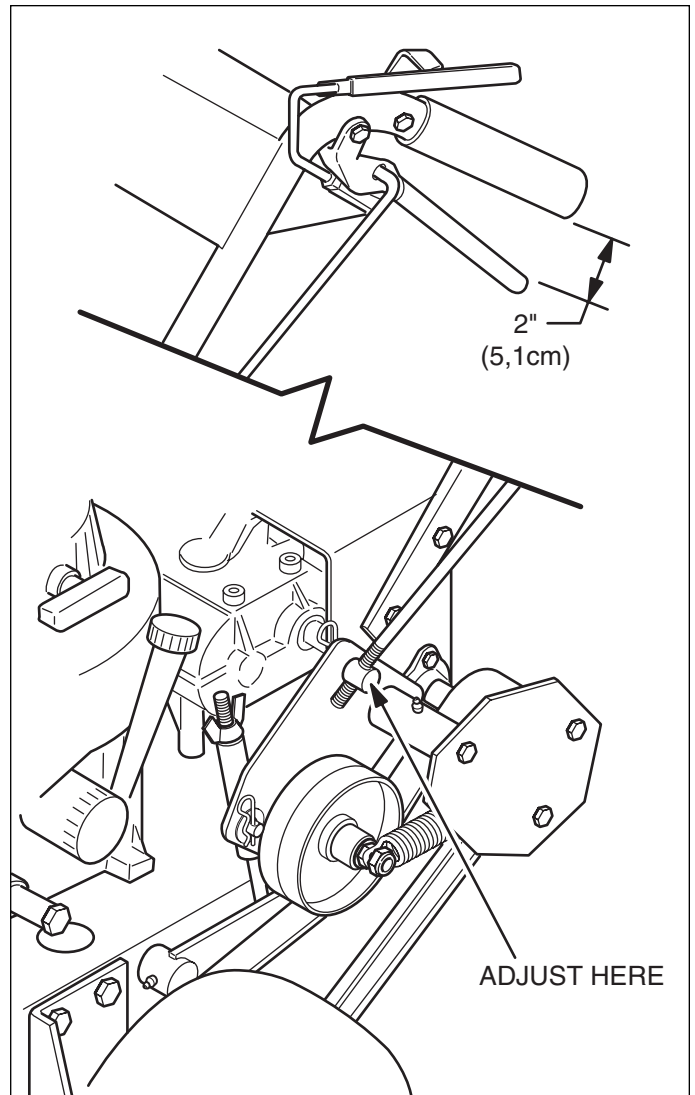

Figure 10. Steering Lever Adjustment
There should be approximately 2" (5,1cm) of clearance in between the handle bars and the steering levers when the clutch lock levers are disengaged (see Figure 10).
1. Remove the hair pin and washer that retains the barrel nut in the clutch plate (see Figure 10).